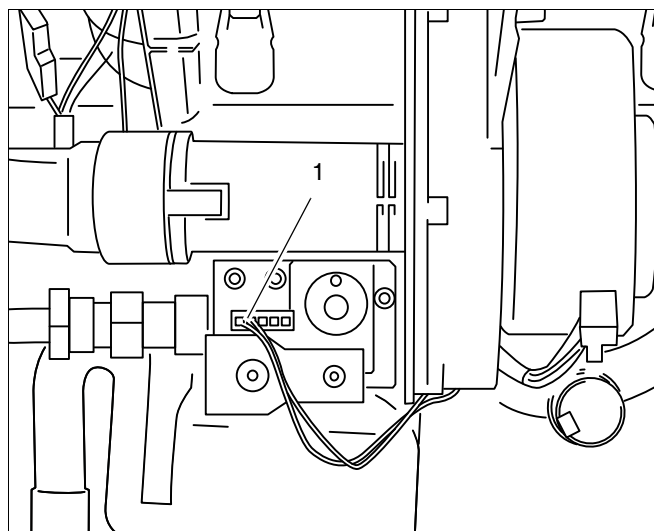

fig. 86 Replacing the gas control valve (e.g. HONEYWELL gas control valve)
- Remove the cable plug from the gas control valve (see fig. 86, pos. 1).